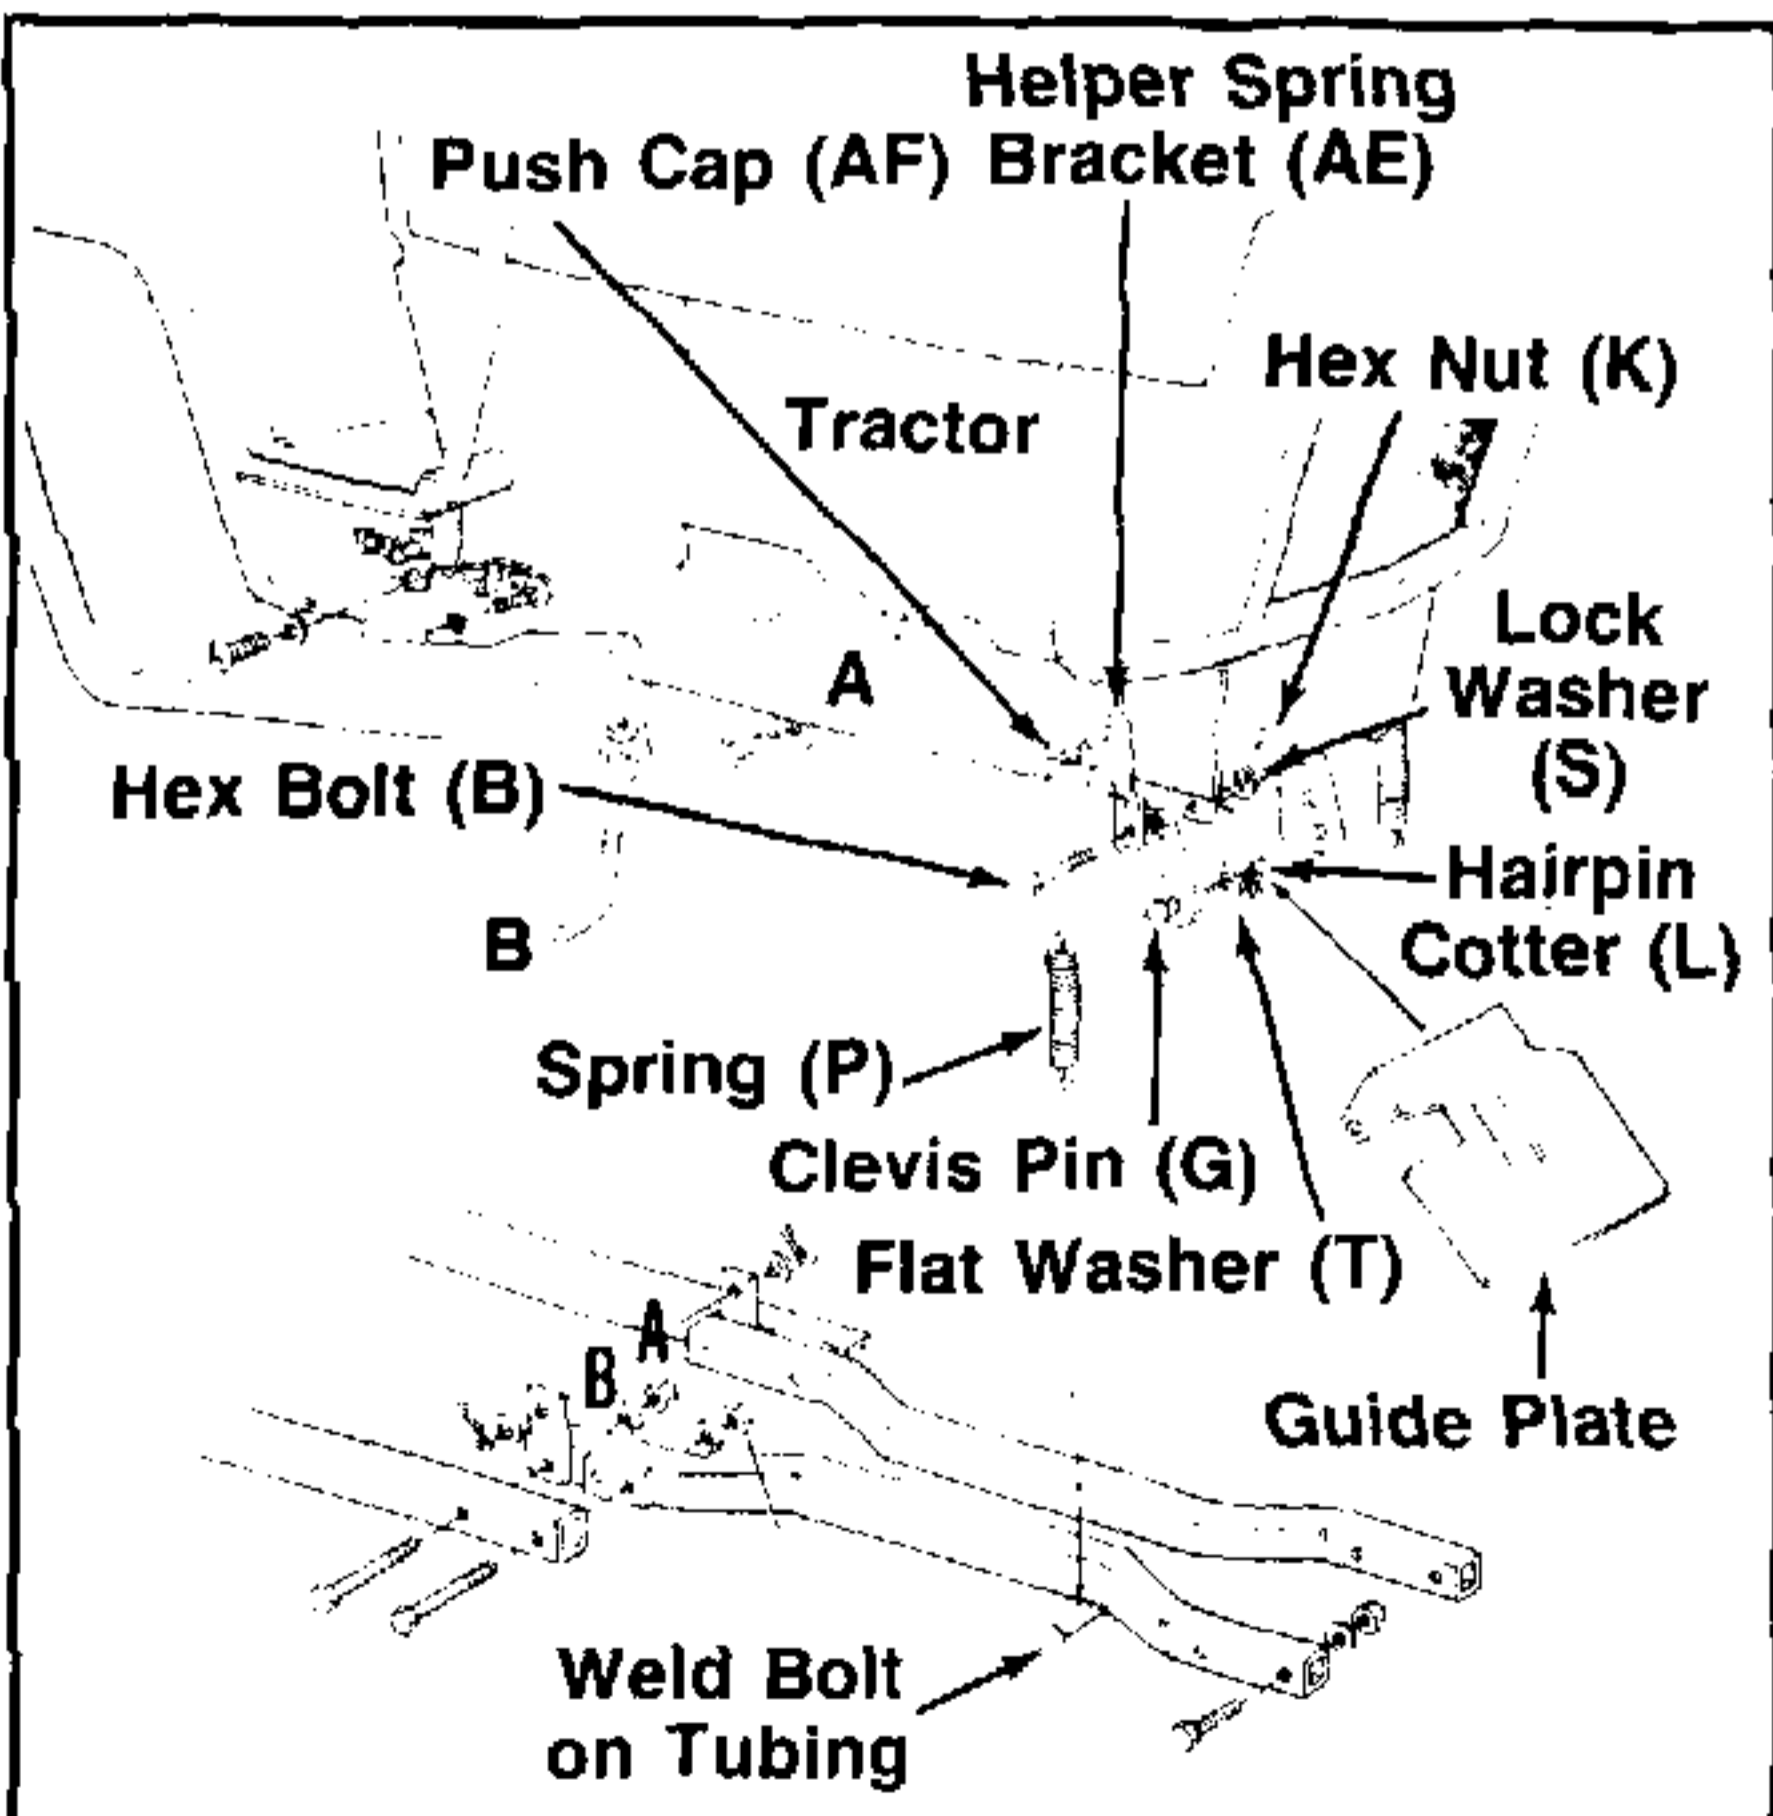

FIGURE 6.
7. Secure the hanger bracket on left hand side of tractor with clevis pin, flat washer and hairpin cotter (which came with the mowing deck). See figure 6.
9. Assemble the helper spring brackets (AE) as follows.
- b. Place hex bolt (B) through hole in helper spring bracket as shown in figure 6. Place spacer (AD) on hex bolt.
- c. Secure to tractor with lock washer (S) and hex nut (K). Tighten securely.
10. Hook one end of extension spring (P) over weld bolts on helper spring brackets. Hook the other end over weld bolts on tubing assemblies. See figure 6.
11. Assemble the guide plate to the front of tractor, using clevis pins (G), flat washers (T) and hairpin cottes (L). See figure 6.